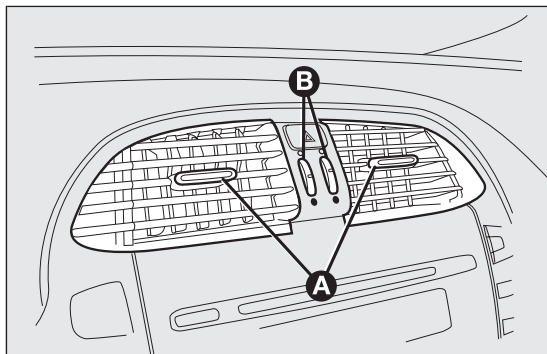

fig. 42
**A** Lateral and vertical air flow adjustment controls fig. 42.
**B** Air flow adjustment controls fig. 42: